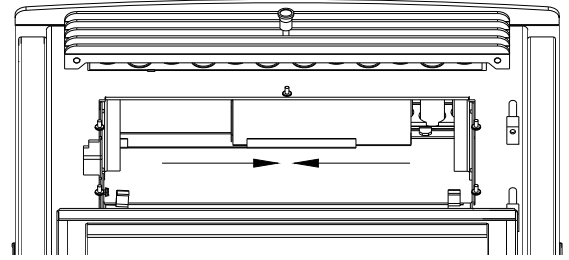

Figure 43
- b. Open the door and remove the baffle from the firebox. Slide each side of the baffle toward the center to remove (Figure 43). Close the door.
- Baffle:** Remove the baffle and scrape off ashes. Slide both sides toward the center to remove the baffle(Figure 43) Use a vacuum is necessary. In some cases, you will need to remove creosote on the baffle, which can accumulate rapidly under certain conditions. A small wire brush can be used. It is important to remove this creosote because it is highly combustible and could cause premature corrosion.